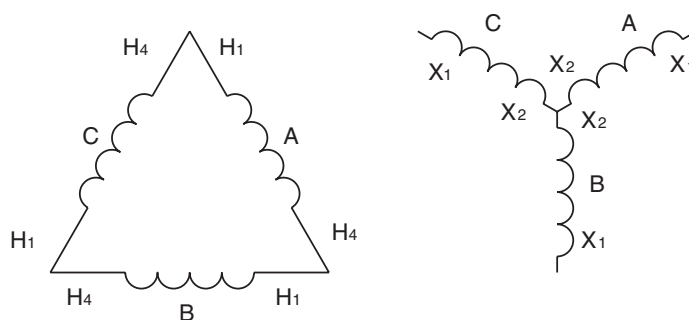
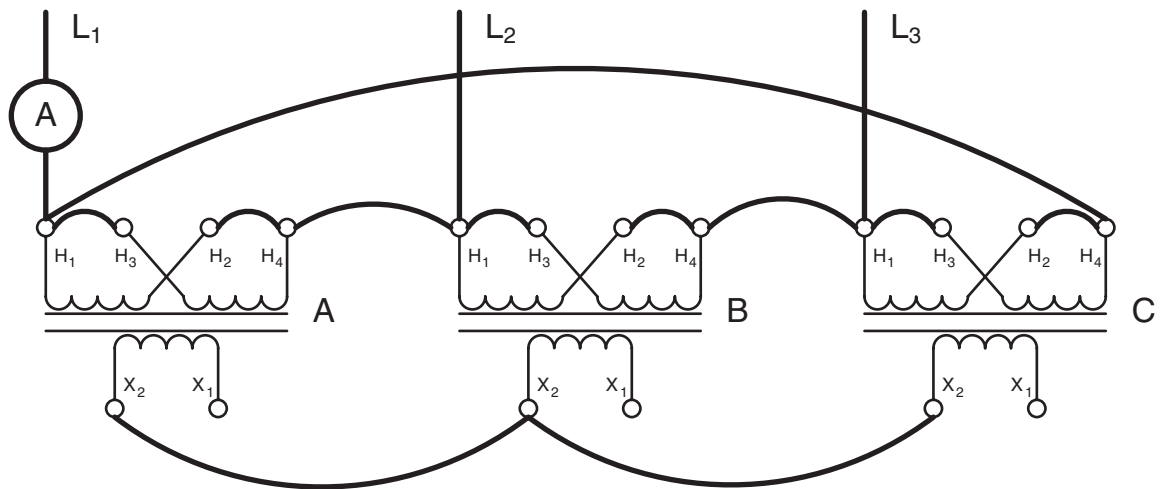

Figure 24-15 A delta-wye transformer connection.
Figure 24-16 Connecting three single-phase transformers to form a wye-delta three-phase bank.
A delta-wye connected three-phase transformer bank has its primary windings connected in a delta configuration and its secondary windings connected in a wye configuration (Figure 24-15). Notice that the three primary windings have been labeled A, B, and C. The H_1 terminal of transformer A is connected to the H_4 terminal of transformer C. The H_4 terminal of transformer A is connected to the H_1 terminal of transformer B, and the H_4 terminal of transformer B is connected to the H_1 terminal of transformer C. The secondary windings form a wye by connecting all the X_2 terminals together.
1. Connect the circuit shown in Figure 24-16. Notice that the three transformers have been labeled A, B, and C. The H_1 terminal of transformer A is connected to the H_4 terminal of transformer C, the H_4 terminal of transformer A is connected to the H_1 terminal of transformer B, and the H_4 terminal of transformer B is connected to the H_1 terminal of transformer C. This is the same connection shown in the schematic drawing of Figure 24-15. Also notice that the X_2 terminal of each transformer is connected together to form a wye connected secondary.